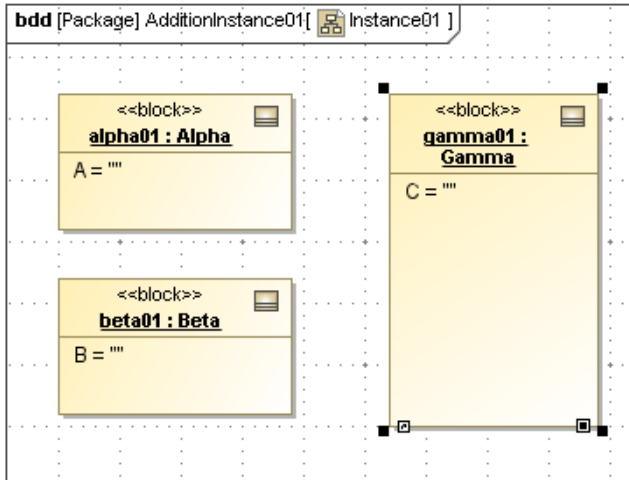

Figure 2.18 Instance diagram, preliminary
- d. Repeat process in step c to create instances **beta01:Beta** and **gamma01:Gamma**. Instance diagram should appear similar to Figure 2.18.